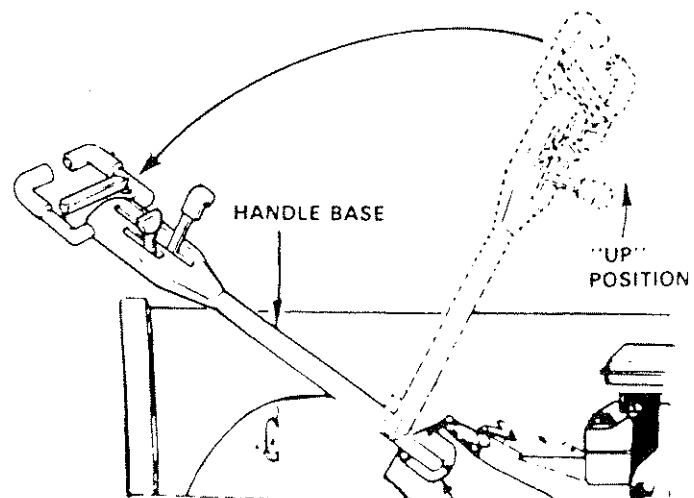

FIGURE 5
- b. Grasp Handle Assembly, ease Handle Base into "UP" position as shown in Fig. 5. Be sure Handle Lock remains in Gearcase Notch.
- c. Insert remaining end of Shift Rod into hole in Shift Lever (Fig. 5).